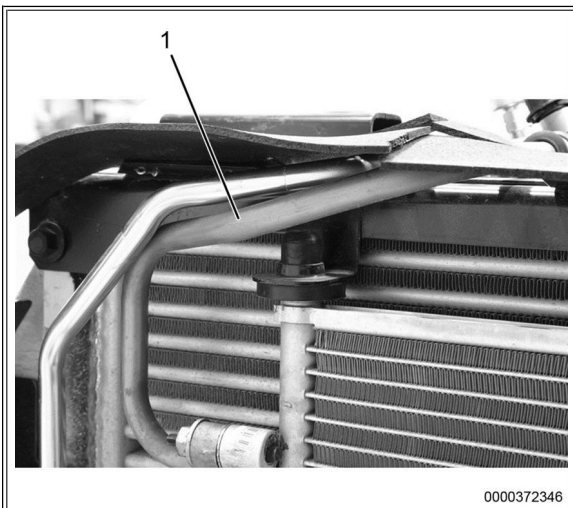

Figure 8: A/C Compressor Discharge Line - Cummins Equipped ProStar 122.
Vehicles built before 14 April 2014 may be equipped with A/C lines that resemble those shown in Figure 8.
27. **Cummins - engine equipped vehicles**, ensure the discharge line (Figure 8, Item 1) is installed behind the liquid line: